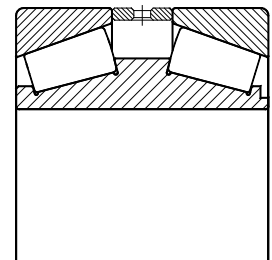

Fig. 2.14
**Double row tapered roller bearings** (fig. 2.14) are ready-for-use **units**. Depending on the application they are arranged either in face-to-face or back-to-back arrangement.